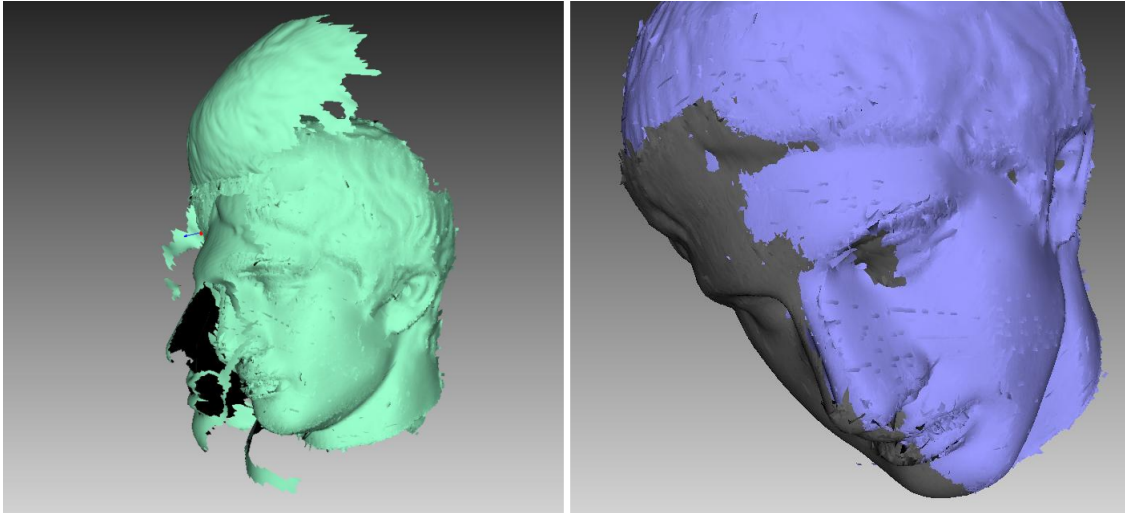

Figure 136: Global-registration errors: wrong settings on left and gap between scans on right.
- After the global-registration algorithm finishes, the frames are in disarray (see Figure 136, left) or the frame positions are unchanged. This error occurs because the application is configured for a different scanner type than the one that captured the data. Change the device type in the application settings (see Algorithm Settings).
- The algorithm has completed successfully, but a gap exists between two or more scans (see Figure 136, right). Select just these scans in the *Workspace* panel and run the global-registration algorithm. If the scans have drawn closer to each other but have failed to align after the algorithm finishes, increase the number of iterations and rerun the algorithm. Repeat this process until you achieve full alignment, then run global registration once again for all data. If you are unable to align several problematic scans, try aligning just two of them, then gradually increase the number of scans until all of them are aligned.